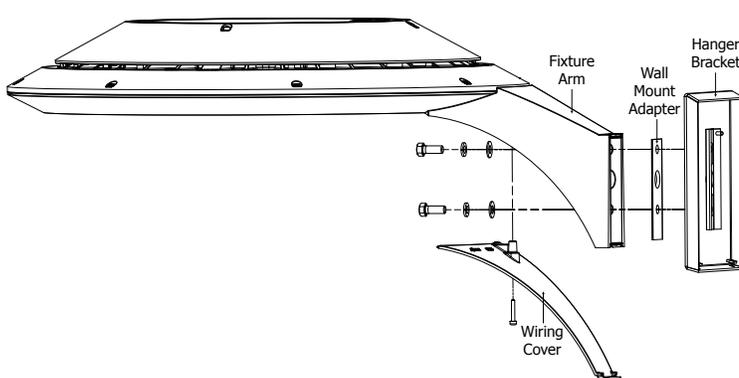

FIGURE 1
1. Install Hanger Bracket to Fixture Arm as shown in Fig. 1. using the provided (2 each) bolts, lock and flat washers. Torque to 20ft-lbs. (Thread adhesive is required).